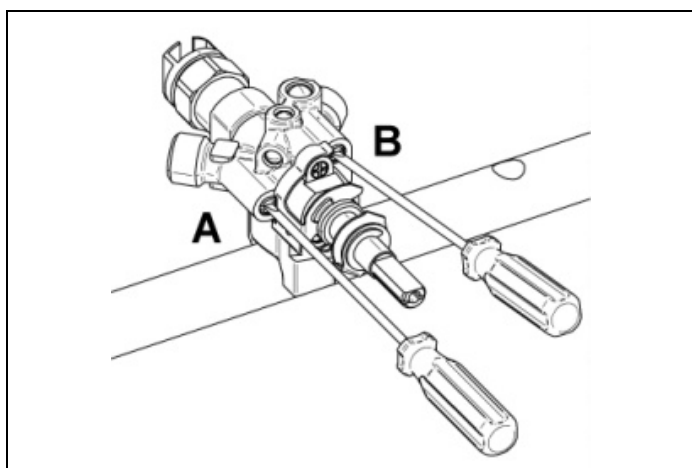

Fig. 15
- 4) For the tap that controls the Dual burner, the throttle screws are located on the tap body (Fig. 15 ), screw A regulates the outer crown while screw B regulates the inner screw.